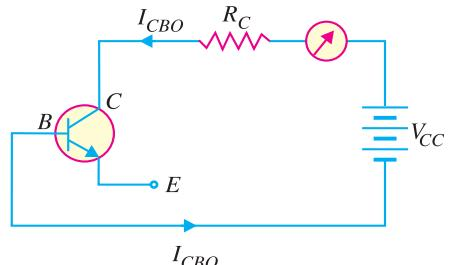

Fig. 8.19
**(ii) Circuit for  $I_{CBO}$  test.** Fig. 8.19 shows the circuit for measuring  $I_{CBO}$ . Since the emitter is open ( $I_E = 0$ ), there is a small current from collector to base. This is called  $I_{CBO}$  (collector-to-base current with emitter open). This current is due to the movement of minority carriers across base-collector junction. The value of  $I_{CBO}$  is also small. If in measurement,  $I_{CBO}$  is excessive, then there is a possibility that collector-base is shorted.